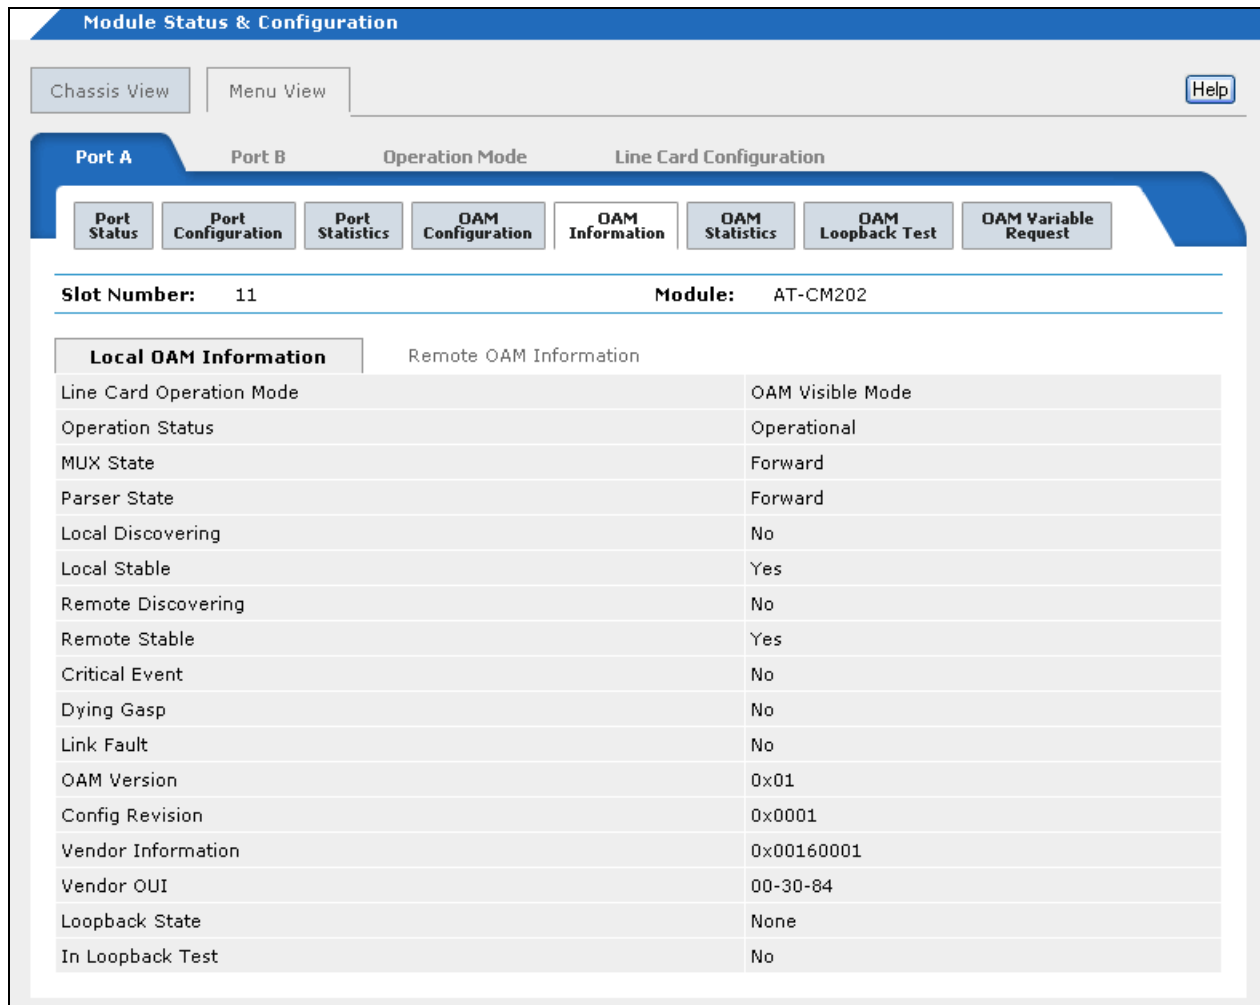

Figure 97. OAM Local Information Tab
4. Click the **OAM Local Information** tab to display the window in Figure 97.
4. Click the **OAM Information** tab to display the tab in Figure 97 on page 220.